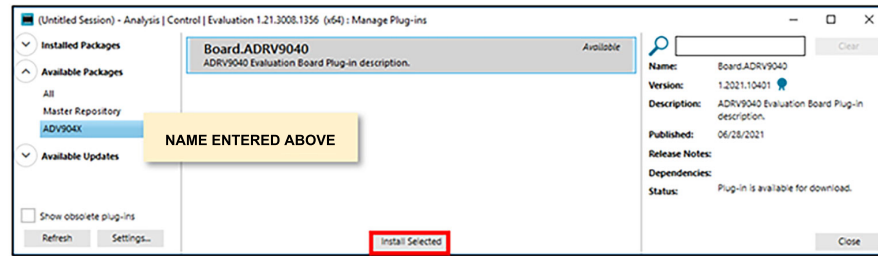

Figure 122. ADRV904x Plugin Installed Using ACE Plugin Manager
5. Launch plugin manager, then select and install **Board.ADRV9040** from the list of **Available Packages** as shown in Figure 122.